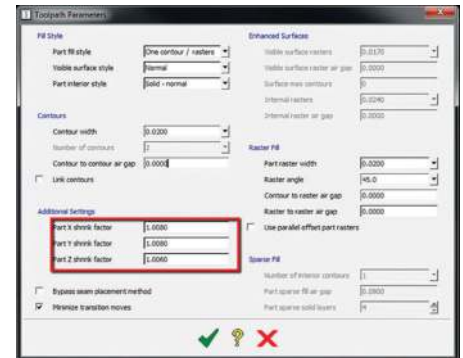

Figure 6: Changing shrink factor.
- When annealing a part, change the shrink rate factor in the **Toolpath Parameters** window (Figure 6) according to the default shrink factor shown in Table 3.